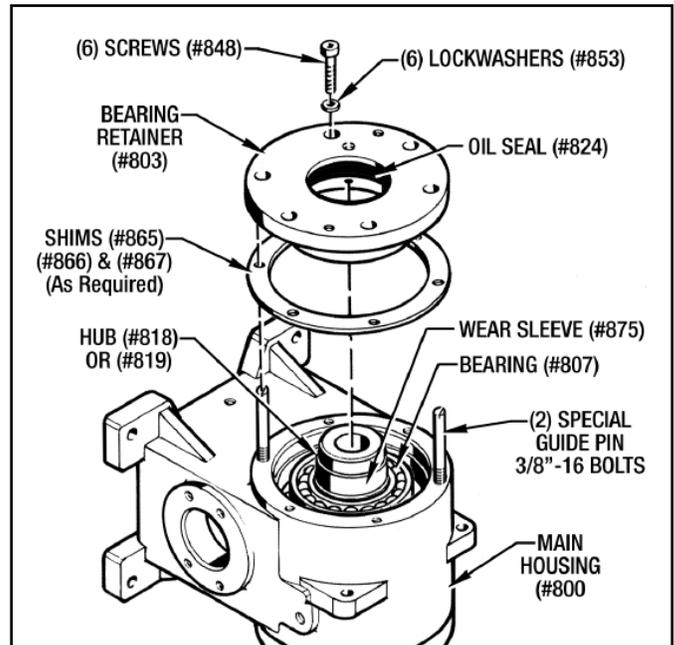

Figure 9.8 - Attaching The Other Bearing Retainer (#803)
3. Place the Shims over the (2) Guide Pin Bolts in place on the face of the Housing (#800).
4. Slide the Bearing Retainer (#803) over the (2) Guide Pin Bolts and attach with (4) Lockwashers (#853) and (4) Screws (#848).
5. Remove the (2) Guide Pins and install the other (2) mounting screws and lockwashers. **Evenly torque all (6) Screws to 25 Lb. Ft.**
12. Carefully position the Bearing Retainer (#803) down over the Guide Pins, guiding the Oil Seal over the end of the Hub. (See Figure 9.8)